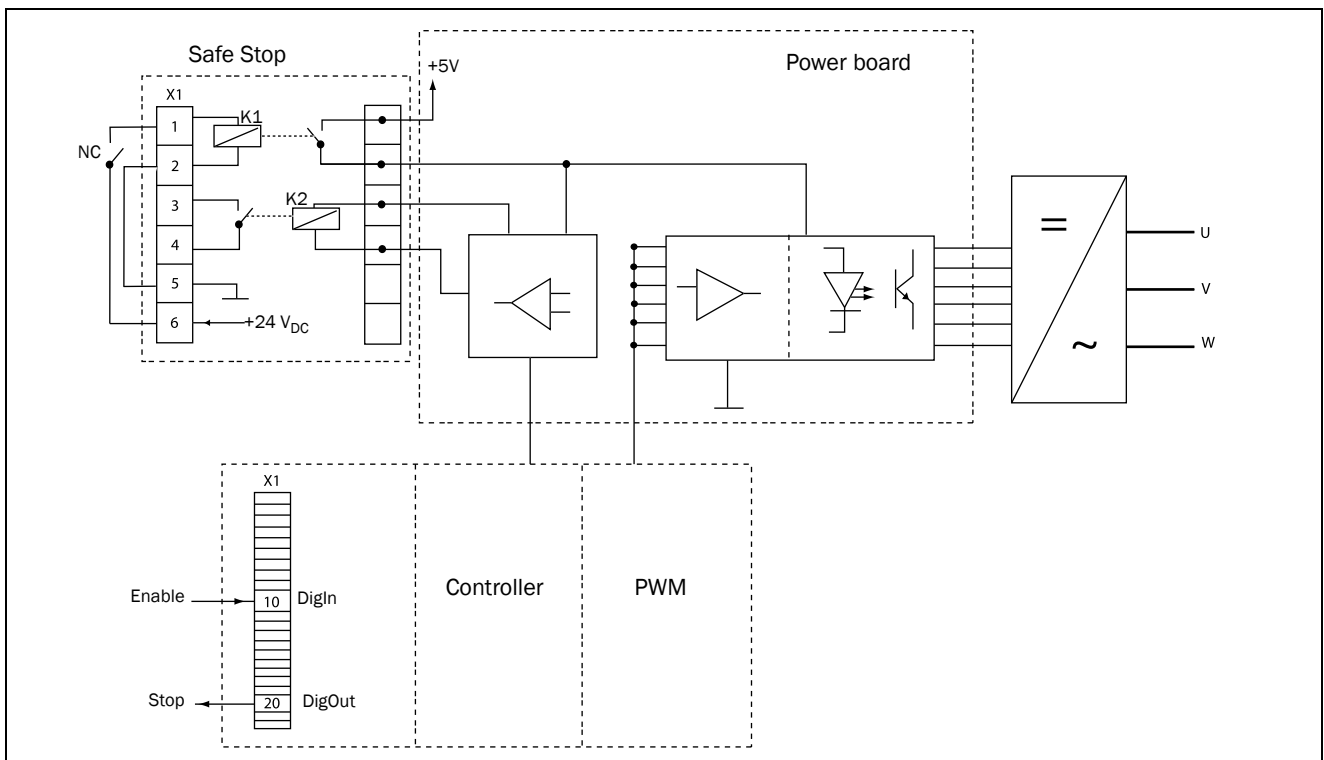

Fig. 133
- "Inhibit" input, terminals 1 (DC+) and 2 (DC-) on the Safe Stop option board should be made active by connecting 24 VDC to secure the supply voltage for the driver circuits of the power conductors via safety relay K1. See also Fig. 133.
- High signal on the digital input, e.g. terminal 10 in Fig. 133, which is set to "Enable". For setting the digital input please refer to section 11.5.2, page 130.
To monitor the "Enable" function, the selection "RUN" on a digital output can be used. For setting a digital output, e.g. terminal 20 in the example Fig. 133, please refer to section 11.5.4, page 136 [540].